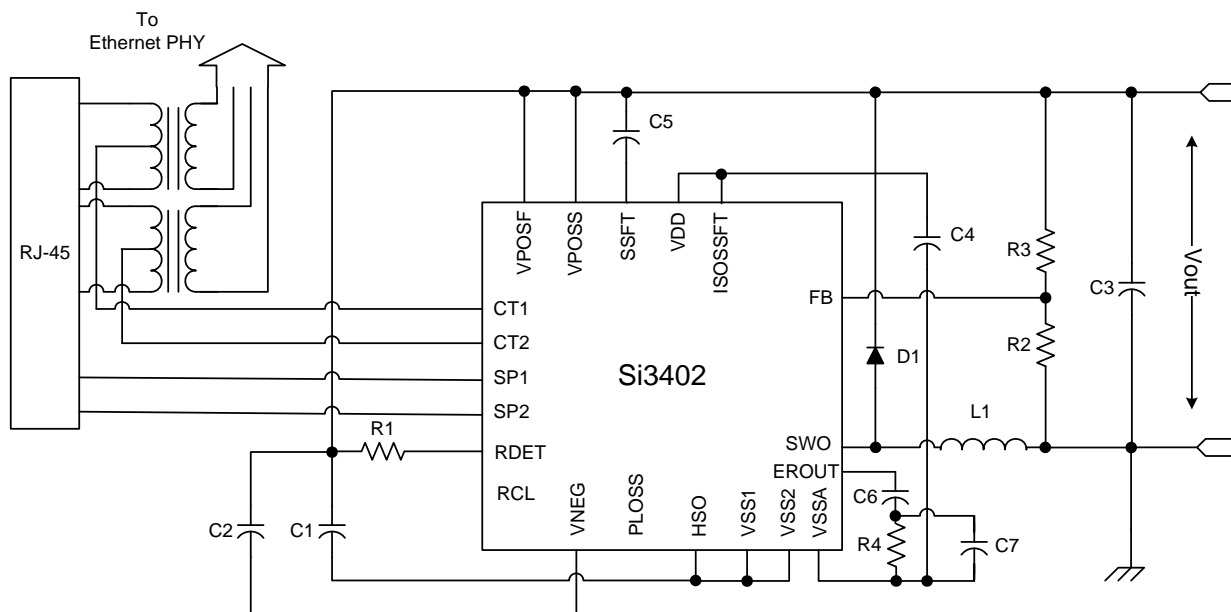

Figure 1. Schematic—Class 0 with Non-Isolated 5 V Output*
6. Applies to non-isolated applications only (VOUT on schematic in Figure 1).
Notes: <ol style="list-style-type: none"> 1. Transient surge defined in IEC60060 as a 1000 V impulse of either polarity applied to CT1–CT2 or SP1–SP2. The shape of the impulse shall have a 300 ns full rise time and a 50 μs half fall time with 201 Ω source impedance. 2. The classification currents are guaranteed only when recommended RCLASS resistors are used, as specified in Table 10. 3. IPORT includes full operating current of switching regulator controller. 4. The PD interface includes dual-level input current limit. At turn-on, before the HSO load capacitor is charged, the current limit is set at the inrush level. After the capacitor has been charged within ~1.25 V of VNEG, the operating current limit is engaged. This higher current limit remains active until the UVLO lower limit has been tripped or until the hotswap switch is sufficiently current-limited to cause a foldback of the HSO voltage. 5. See “AN296: Using the Si3400/1/2 PoE PD Controller in Isolated and Non-Isolated Designs” for more information. 6. Applies to non-isolated applications only (VOUT on schematic in Figure 1).